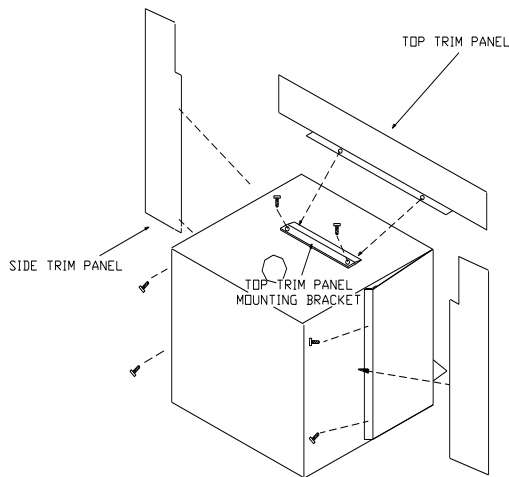

FIGURE 3 MOUNTING TRIM PANELS
1. Place side trim panels in place, flat against the face of the fireplace. Mark down front edge of trim panel with a pencil to make a vertical reference line. (See Figure 3).
4. Mount side trim panels. (See Figure 3).
12. Using insulation provided, peel and stick to back of panels overlapping fireplace dimensions by 1" on each side and top. (See Page 8, Figure 3).